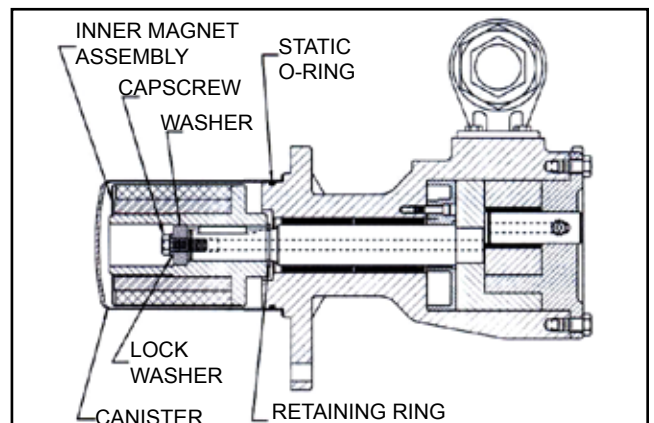

FIGURE 22
4. Insert a brass bar through a port between two rotor teeth and loosen the capscrew holding the inner magnet to the shaft. See Figure 22. Slide the washer, lock washer and inner magnet off the shaft. Do not forget this is a very strong magnet. If pump disassembly is required, remove the external retaining ring.